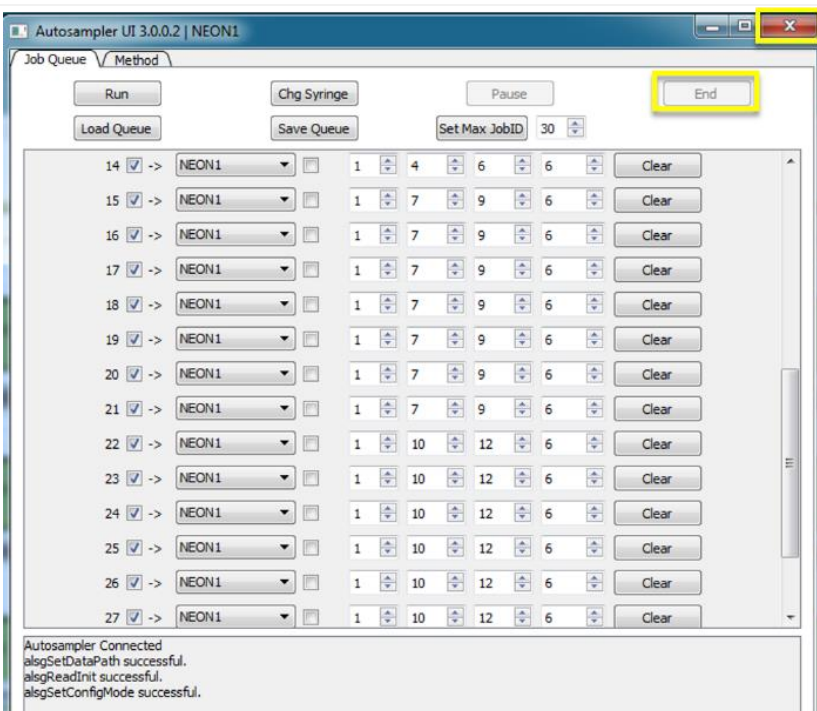

Figure 187. Close Autosampler Control Program.
- Click 'End', if button is enabled to end the run, and click 'X' in the upper right hand corner of **Figure 187**.
- If 'End' is not enabled, click 'X' to close in the upper right hand corner of **Figure 187**.
Figure 187 displays the 'End' button not enabled.